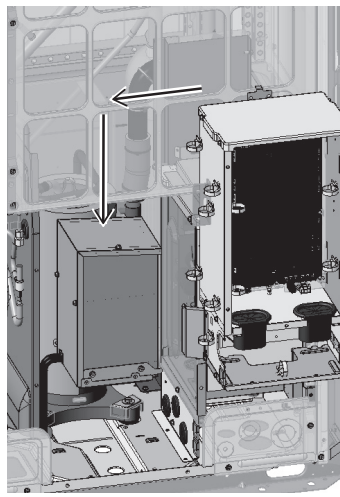

Figure 7
(9) Remove the transformer box as shown in the figure. (Figure 7)